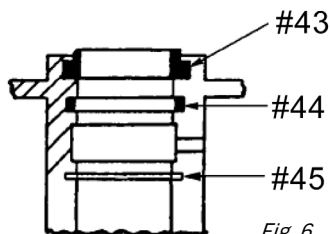

Fig. 6
5. Remove all O-rings and seals (Fig. 6).